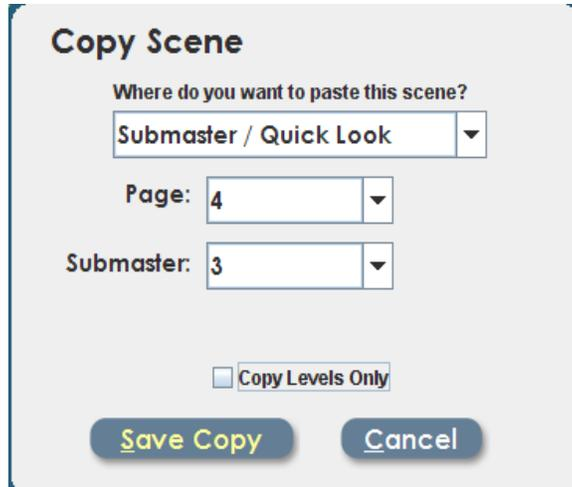

Figure 26: Copy Scene Menu
2. A window will open and a question will ask, "Where do you want to paste this scene" (See figure 26).